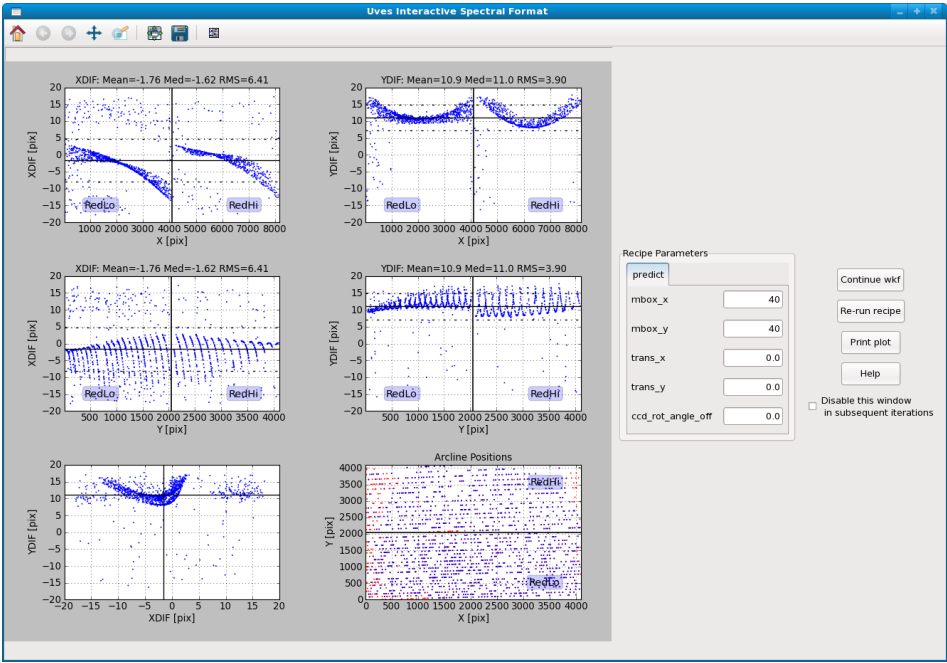

Figure 6.3.2: The interactive window for the Spectrum Locator actor for the first DataSet in the data supplied with Reflex 2.1..
5. **Spectrum Locator:** During the execution of the `Spectrum Locator` actor, an interactive window will appear as shown in Figure 6.3.2. The interactive window consists of six plots, five pipeline recipe parameters that may be changed, four buttons on the right, and a panel of buttons at the top-left. Help for each of these features may be accessed by leaving the mouse pointer for about one second over the plot/parameter/button for which information is required.